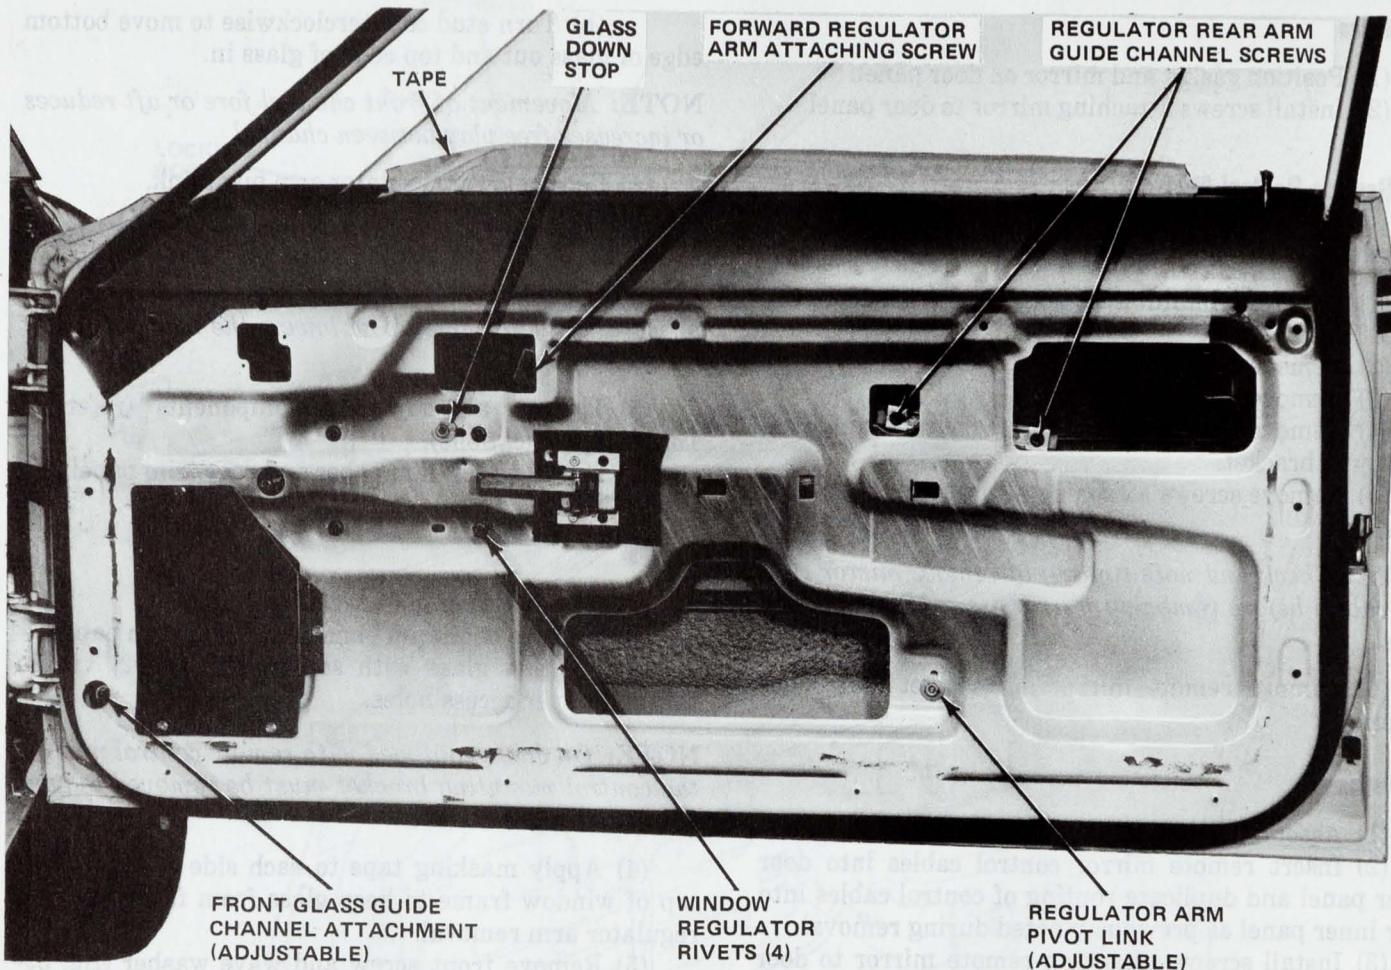

Fig. 3J-22 Glass Adjustments—Gremlin-Concord-AMX
- (2) Slide glass up until fasteners are visible through upper access holes.
- (3) Apply masking tape to glass and window frame to keep glass from falling.
- (4) Crank regulator arms up.
- (5) Install front screw and wave washer in fastener (fig. 3J-24).